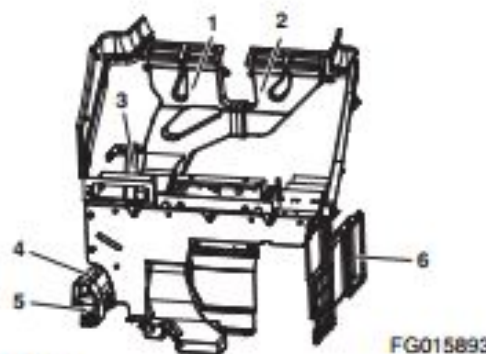

Figure 18
11. Install air ducts (1 thru 5, Figure 18). Install atmospheric air duct (6).